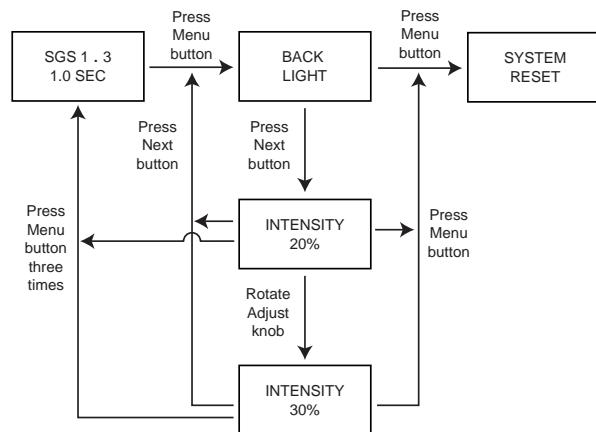

Figure 3-3 — Changing the backlight
1. From the default screen, press the Menu button. The Back Light menu appears (figure 3-3).